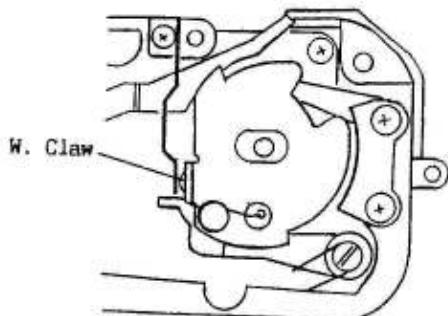

Fig.57
- When the W. Interlock Plate comes to the position as shown in Fig.57 during its turning, make sure that the ME Block Plate is not pushing against the end of the W. Claw.
And after completion of winding, make sure that the ME-W Lever is unlocked when the W. Interlock Plate has passed the position shown in Fig.57 during reversing.